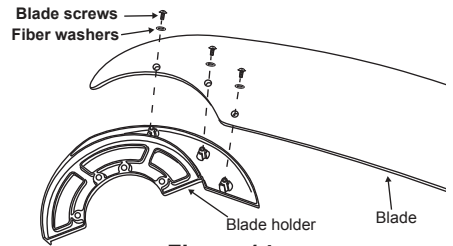

Figure 14
Step 2. Attach the fan blades to the blade holders by using blade screws and fiber washers as shown in Figure 14.